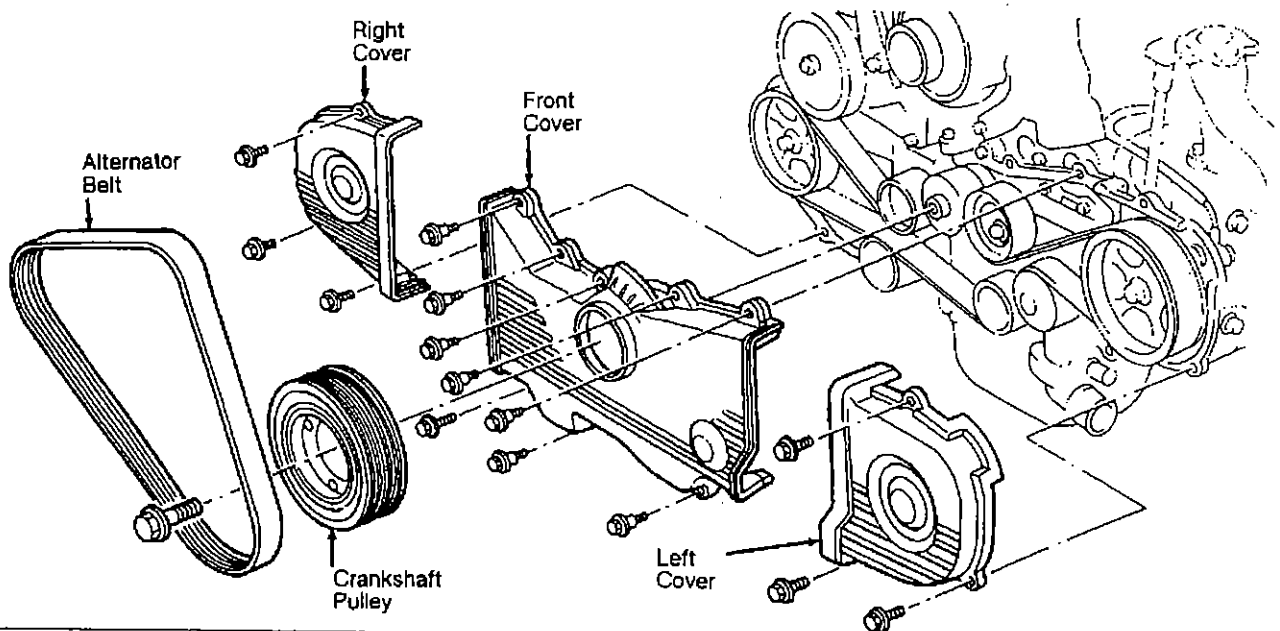

Fig. 2: Removing Front, Right & Left Timing Belt Covers
2) Remove front, left and right timing belt covers. See Fig. 2. If timing belt is to be reused, mark belt to indicate original direction of rotation before removal. Use Crankshaft Socket (499987500) to turn crankshaft pulley.